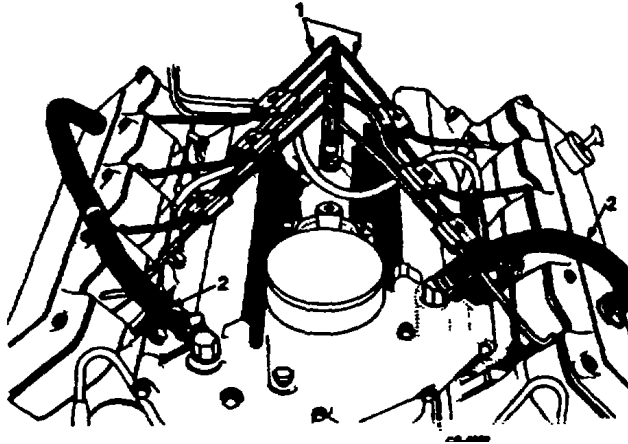

Figure 193. Removing Injection Lines and Ventilator Hoses
6. Disconnect fuel injection lines from Injection pump and injection nozzles, remove lines (Figure 193).